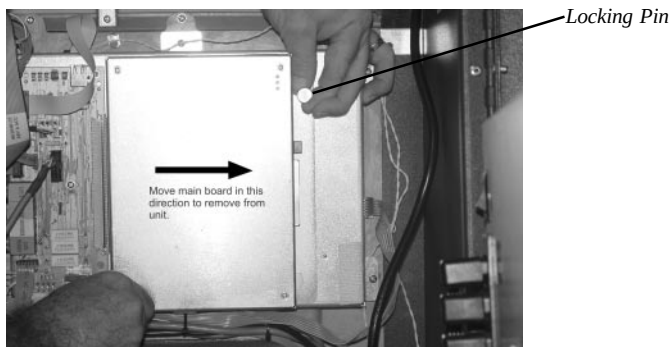

Figure 3-12. Lift the locking pin to allow the main board assembly to be unplugged from the docking assembly.
- 5 Refer to Figure 3-12. Lift the locking pin that secures the main board to its mounting bracket. Grasp the main board assembly by its case and carefully pull it away from the connector on the docking assembly.